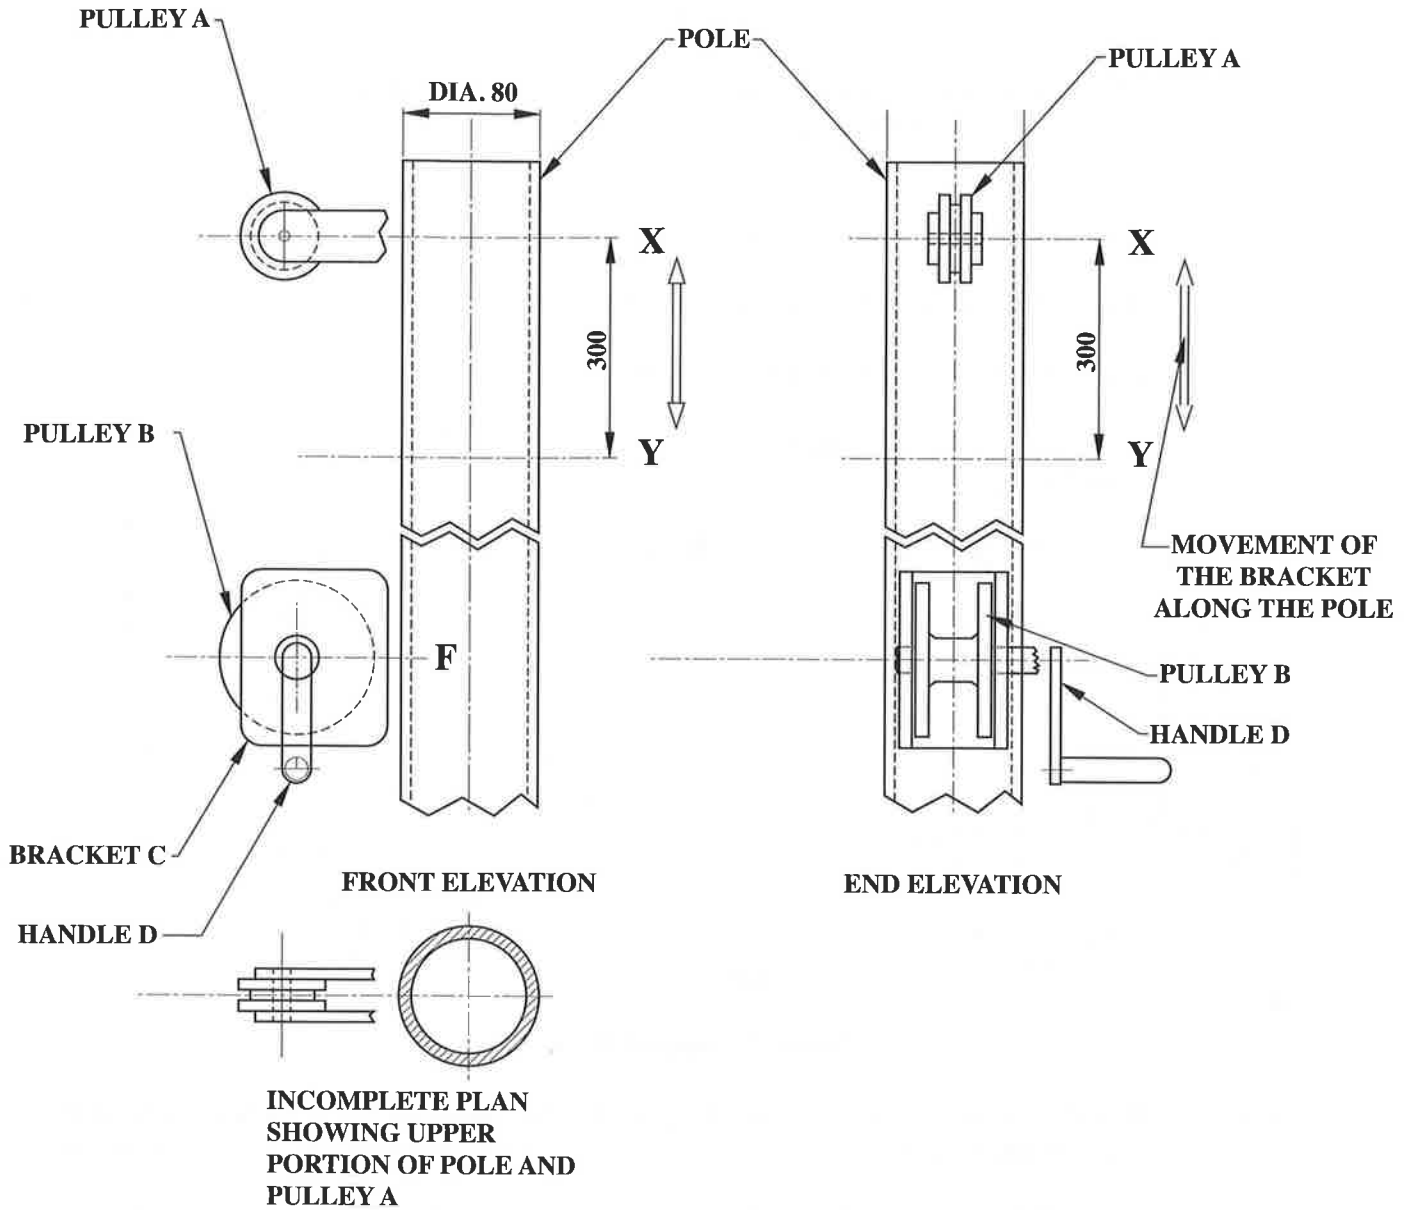

Figure 1. Incomplete design of a volleyball pole and net tensing mechanism
1. Figure 1, on page 3, shows the incomplete design for a volleyball pole and net tensioning mechanism.